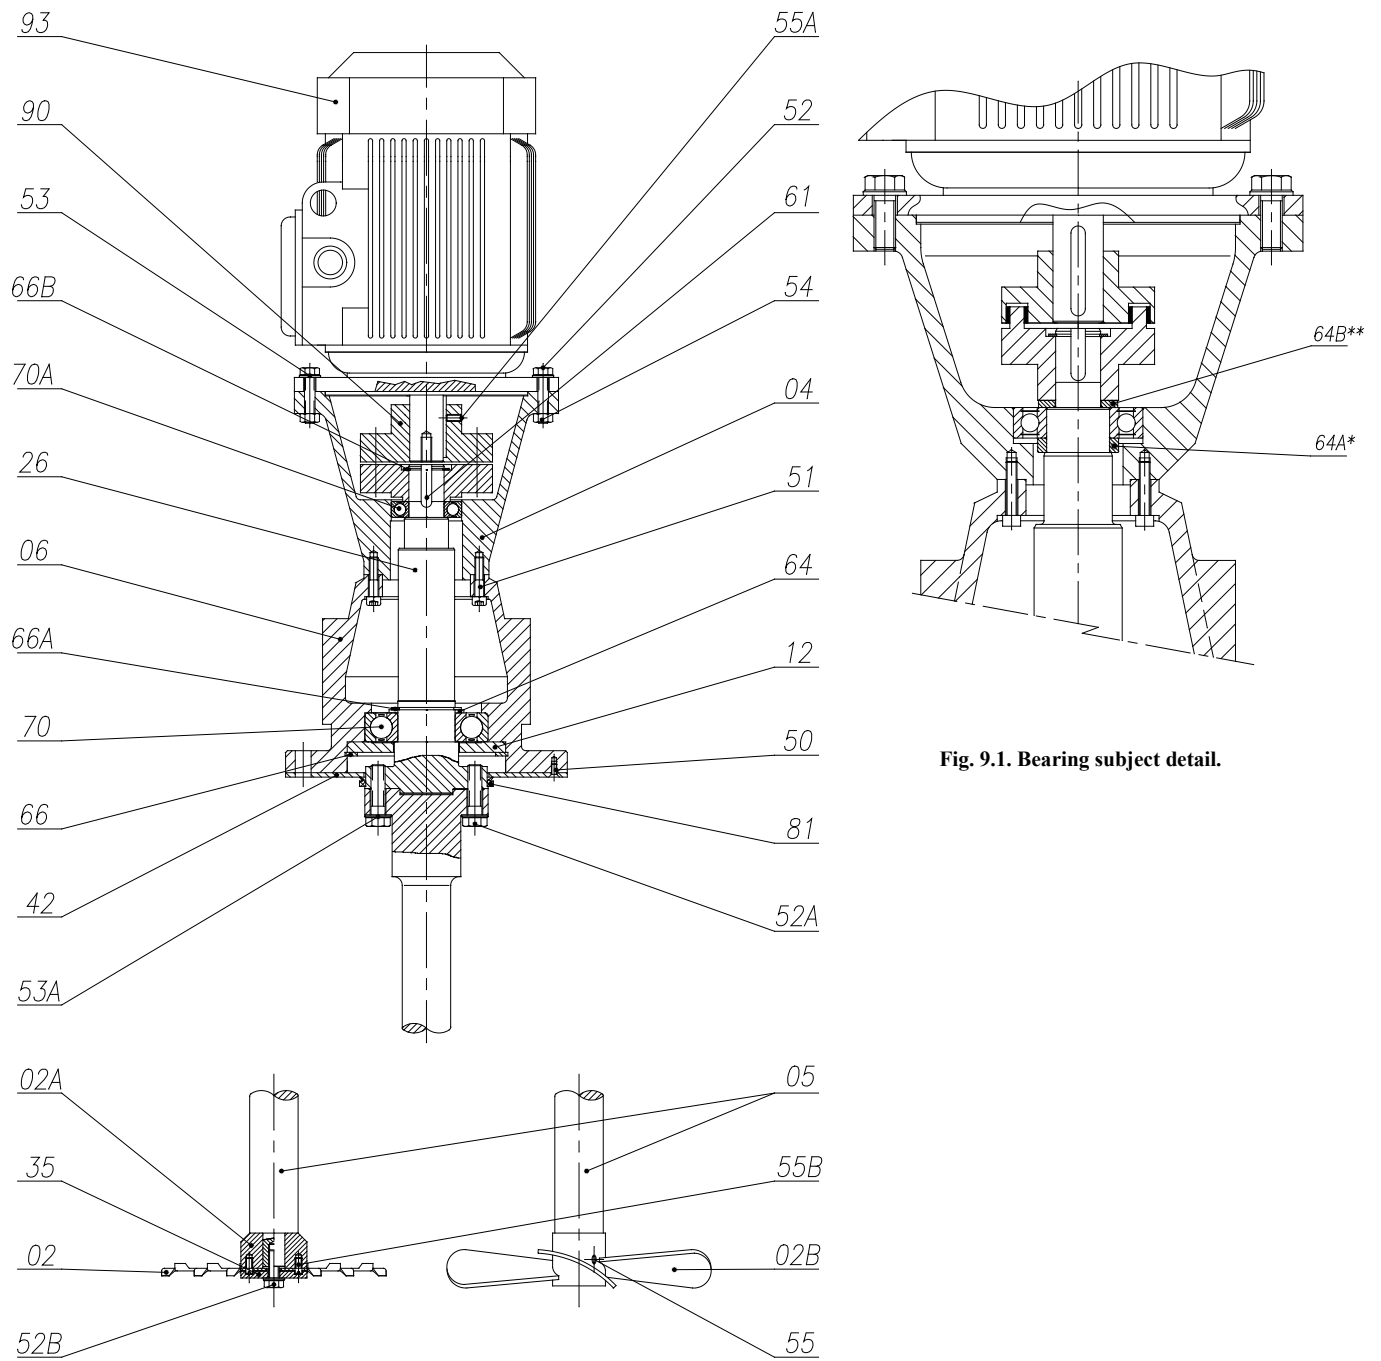

Fig. 9.1. Bearing subject detail.
** B bearings support. (see fig. 9.1)